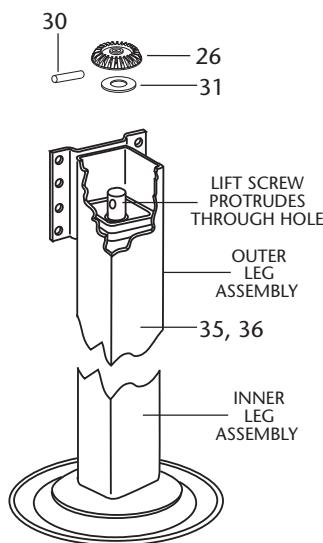

Figure 9
- Place the outer leg assembly (**Item 35 or 36**) over the inner leg assembly (**Item 27, 28, or 29**) and press down until the end of the lift screw protrudes through the hole in the top of the outer leg assembly as shown in **Figure 9**.
- Slide the bevel gear (**Item 26**) over the lift screw and position it on the pin as shown in **Figure 9**. When properly engaged, the top of the bevel gear will be approximately flush with the top of the lift screw.